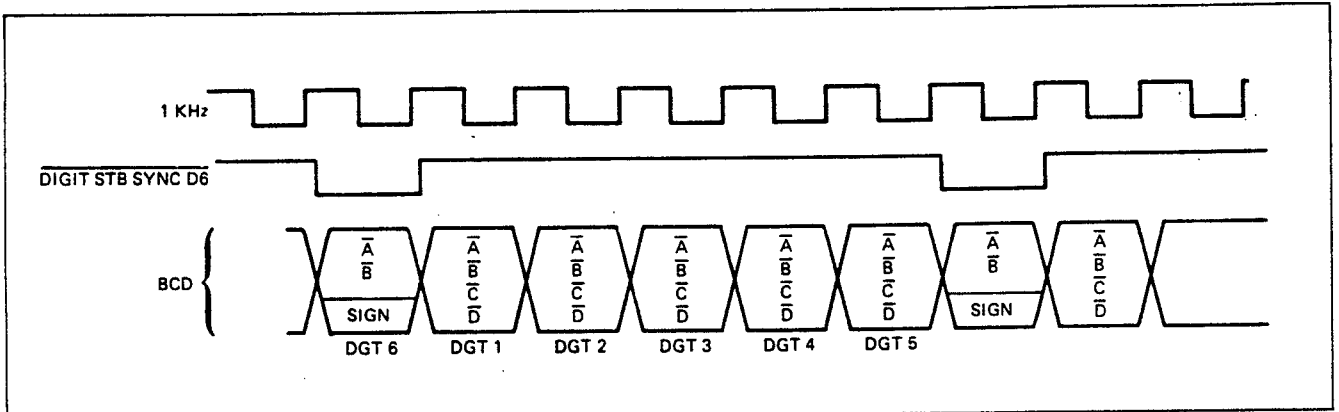

Figure 4.14 - Typical Waveforms From Across Guard As Seen By  $\mu P$  Via Inputs On U16
4.5.7.4 A typical set of waveforms are presented in Figure 4.14 as they would appear to the  $\mu\text{P}$  while reading the MUX BCD data from the analog section, crossing guard, to the input of U16. The  $\mu\text{P}$  uses the positive edge of the 1 KHz signal to indicate when it should read the next nibble of BCD data from U16 inputs. The  $\mu\text{P}$  uses the DIGIT STROBE SYNC D6 signal to indicate when the most significant digit is MUX across guard.
4.5.9.3 The OPERATION is described as follows. When the  $\mu P$  must determine if any key is pressed, it reads from U13 while address lines A0-A5 are high. The ones on A0-A5 lines propagate through U5 and appear as zeros on N, M, L, H, K and J columns of the keyboard as shown in Figure 4-14. When a key is pressed, the  $\mu P$  will read a zero on one of the row outputs through U13, the remaining rows will read ones. When a zero does appear, the  $\mu P$  then scans each keyboard column one-at-a-time by reading from U13 with only one of the lines A0-A5 high and others low, until the proper column has been driven low, and that a zero once again appears in the read from U13. Once this occurs, the  $\mu P$  suspends further keyboard scanning and processes the key in software.